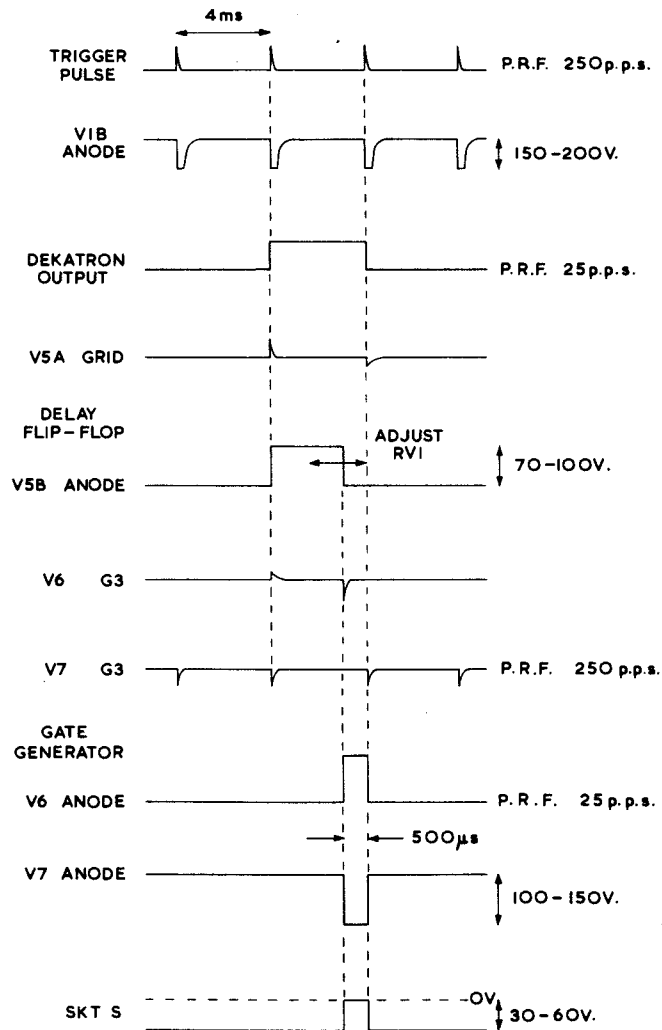

Fig.3 Monitor, noise figure M1: waveforms (part 1)
increased to approximately 100 us by means of a pulse stretching network C2, R2 in V1a cathode circuit, the pulse is then amplified and inverted by V1b to provide a suitable drive pulse for V2. The output of the dekatron (cathode 6) is a positive-going pulse of 1/p.r.f. duration (fig.3). This is applied via differentiating network C7, R15 to the grid of a second cathode follower V3a.
11 V5b, which is normally conducting due to the positive bias from R31 and RV1, produces a positive-going output pulse lasting for approximately 3.5 ms, the actual duration being adjusted by means of RV1 (GATE WIDTH) so that the pulse terminates 500 us before the arrival of the next trigger pulse from the pulse generator (see fig.3). The pulse is then fed via a differentiating network C11, R32 to the suppressor grid of V6 which, together with V7, is connected in an Eccles Jordan bi-stable circuit.
12 The negative-going pulse produced at the anode of V1b (at the transmitter p.r.f.) is also applied to the suppressor of V7; this valve is thus normally cut-off and V6 is conducting heavily. On the termination of each pulse from V5, however, a negative-going 'pip' is applied to V6 suppressor (V4 clips the positive-going edge of the differentiated waveform) and current is switched to V7 anode until the arrival of the next pulse from V1b. A negative-going pulse is thus produced at V7 anode during the last 500 us of the interpulse period following every 10th radar pulse (see fig.3). A corresponding positive-going pulse is produced at V6 anode.
15 The negative-going switch pulse for the noise source is produced by feeding the positive-going 'gate' pulse from V6 anode (fig.3) to the grid of a negatively-biased amplifier V8. The suppressor grid of this valve is 'gated' by the waveform from V11a anode (fig.4), used to switch the synchronous relay, so that a pulse is produced at its anode only during the interpulse period following every 20th radar pulse, when the output of the i.f. unit is switched to the 'receiver noise pulse injected noise' integrating circuit. A cathode follower stage V9b provides a low-impedance output to the noise-source drive p.e.c.
32.2 Set monitor selector switch SA to the TEST 1 position. Check that dekatron counter V2 is operating (e.g. that the glow is uniformly distributed round the electrodes), and trigger oscilloscope CT316 from SKT K. Connect the Y input of the oscilloscope to SKT S and adjust the timebase controls to display one complete cycle of waveform. This will be a positive-going pulse of between 30 and 60V amplitude (fig.3). Set the pulse duration to 500 us by adjusting GATE WIDTH control RV1.